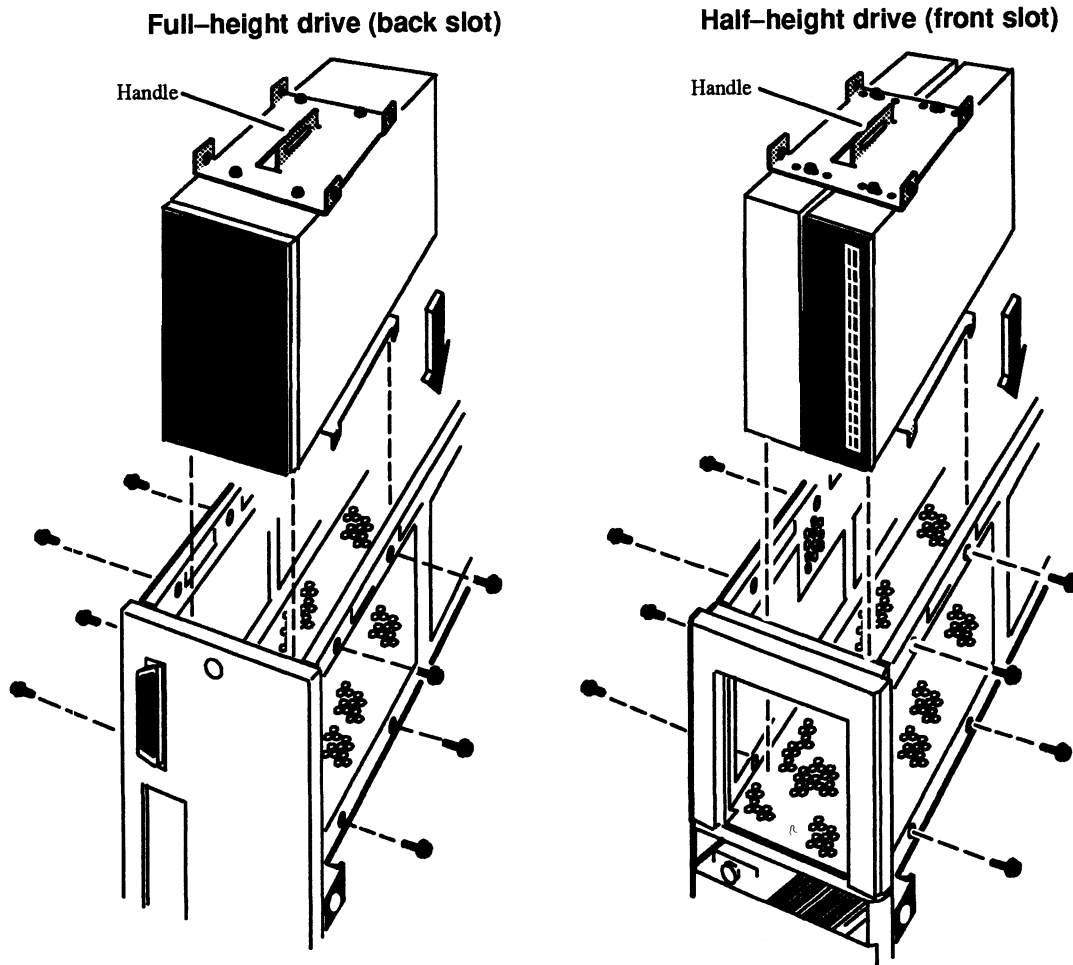

Figure 2-12 Installing a Drive Assembly in the Computer Unit
3. Align the holes on the drive assembly's brackets with the holes in the computer unit frame, and attach the drive assembly to the computer unit with the eight screws and washers as shown in Figure 2-12.